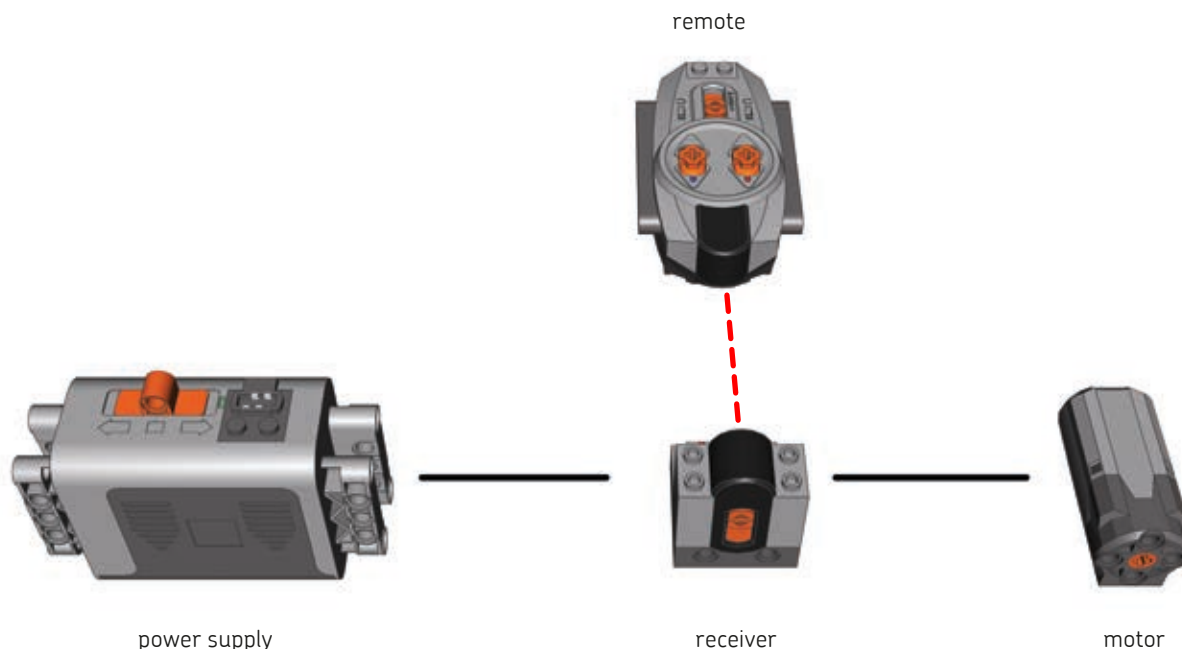

Figure 12-2: The Power Functions motor system can be controlled remotely.
The third category of motors is the *Power Functions* (PF) line, introduced in 2007 (shown in Figure 12-2). These motors are designed to use a 9V power supply as well, but unlike the previous category, they are part of a carefully planned and currently developed system of motors and specialized parts. The Power Functions line includes just a few motors, which are designed to complement each other. Each motor is suited for different tasks, and the characteristics of the motors vary considerably. PF motors are well suited to studless building because they have odd widths and pin holes, and their torque is optimized for high-load applications. Additionally, they can be controlled remotely, while the
While direct manual control is a nice option, the key advantage of the Power Functions system is the ability to control motors remotely. This is done by a pair of elements: a remote and a receiver (see Figure 12-2 on page 164).